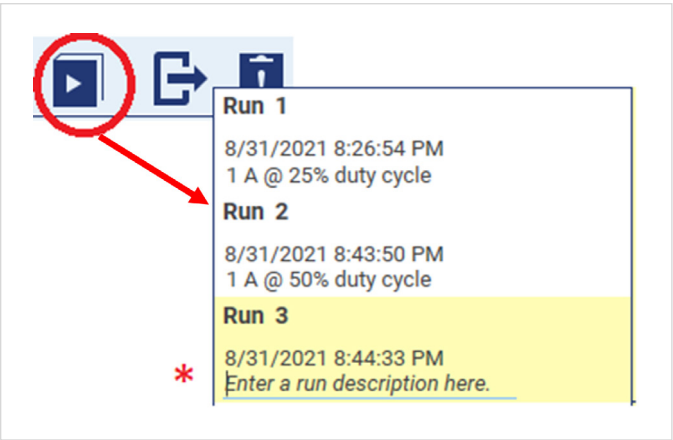

Figure 15: Use the Run History to help document changes to the app configuration.
12. Select each of the individual runs and update the area reading “Enter a run description here” to provide a general description of the test configuration run (see **Figure 15** for an example).